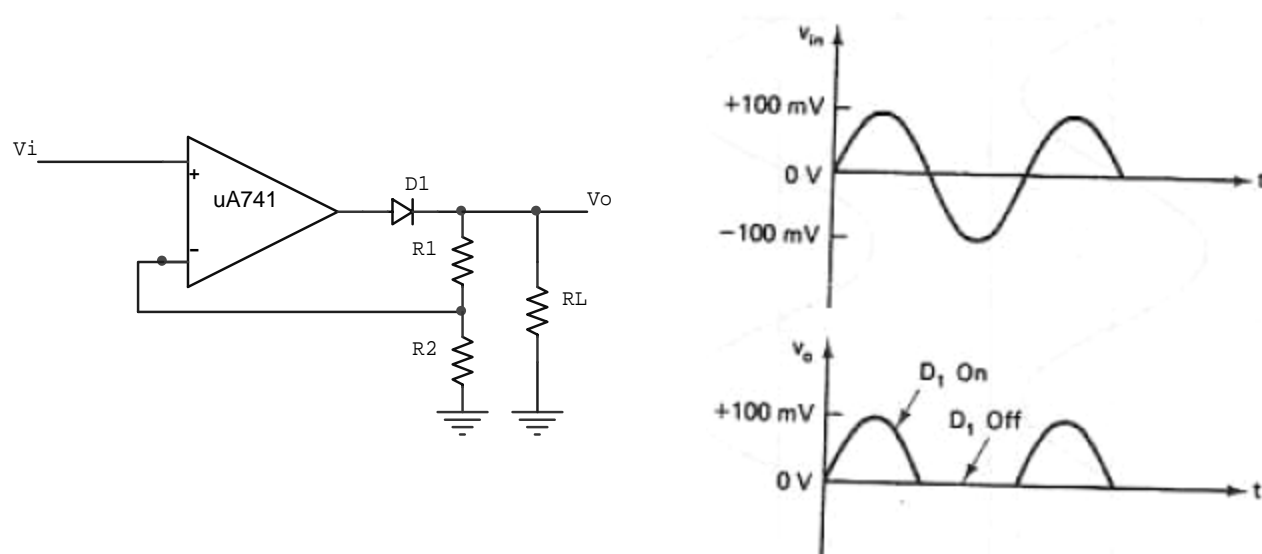

Fig 2-2-3(a) Active HWR, (b) input and output waveforms
Op-amps can enhance the performance of diode circuits. For one thing, the op-amp can eliminate the effect of diode offset voltage, allowing us to rectify, peak-detect, clip, and clamp low-level signals (those with amplitudes smaller than the offset voltage). And because of their buffering action op-amps can eliminate the effects of source and load on diode circuits. Circuits that combine op-amps and diodes are called active diode circuits. Fig. 2-2-3 (a) shows an active HWR, with gain.
- 2.1 Design an active half-wave rectifier as shown in fig.2-2-3 (a) for a gain of -4.7 . Choose the appropriate resistor values of R_1 and R_2 . Consider $R_L = 10\text{k}\Omega$. Use 1N4002 diodes. Assemble the circuit.
4. If the diode is reversed in fig. 2-2-3 (a), what would the output voltage be?